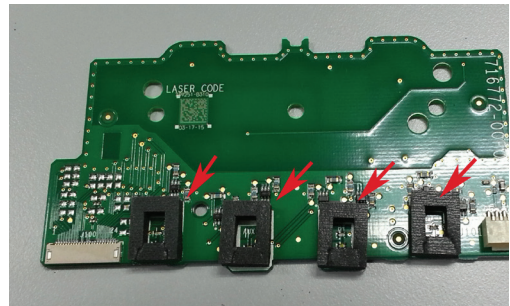

Figure 35. Keypad, Foam
4.1 Figure 35. Align the foam to the outline on the PCB. Press the foam to approximately 3mm of its body height and then release it. PCB Foam part 747504-0010.